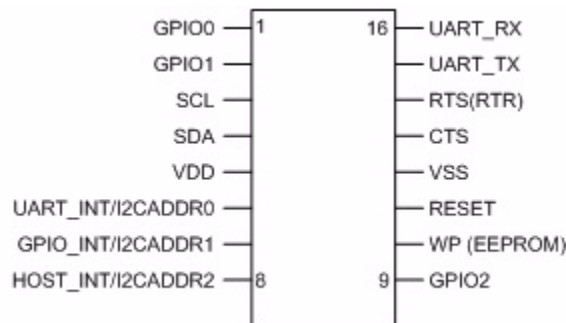

Figure 2. ZDU0110RFX Pin Configuration
- Figure 2. ZDU0110RFX Pin Configuration 6
Figures 2 through 5 show the pin configurations for each Digital UART package style.